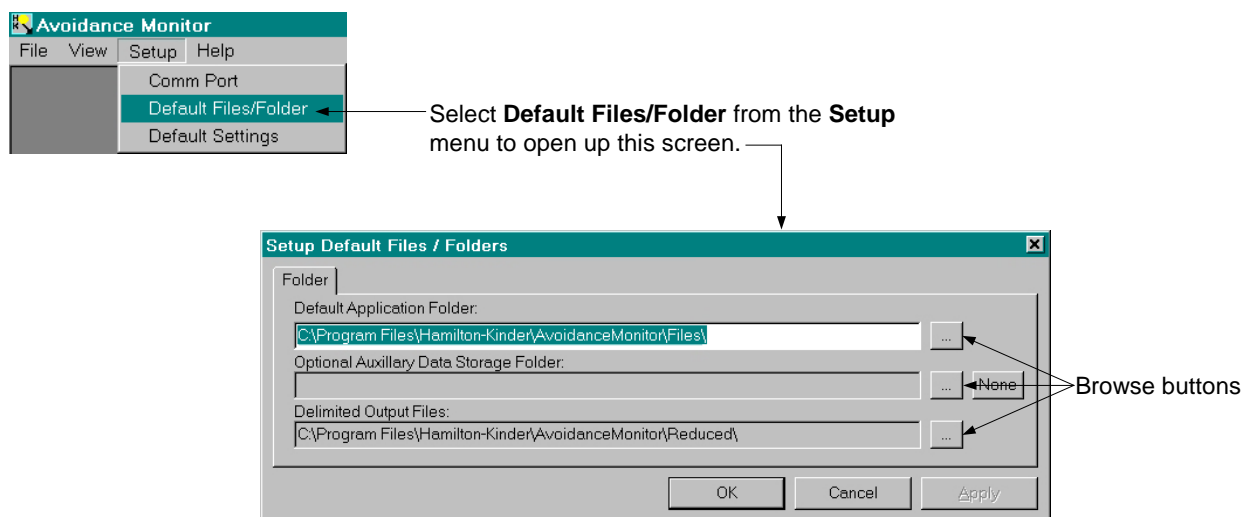

Figure 2-5. Default Files/Folders Screen
2.1.3 Setting Default Files/Folders You can accept the installation default locations where the system stores the raw data files and the reduced files, or you can change them. To do this, click on **Setup** and then **Default Files/Folder** as shown in Figure 2-5.